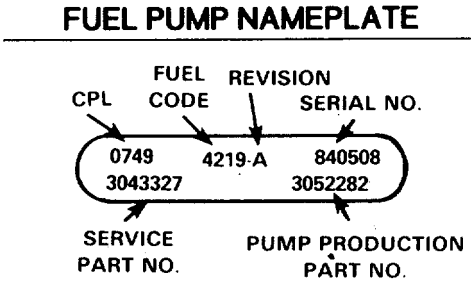

FIGURE 1-4. Fuel Pump Dataplate.
c. Fuel Pump Dataplate (Nameplate). The fuel pump dataplate is located on the top of the fuel pump. It provides information for fuel pump calibration (FIGURE 1-4).